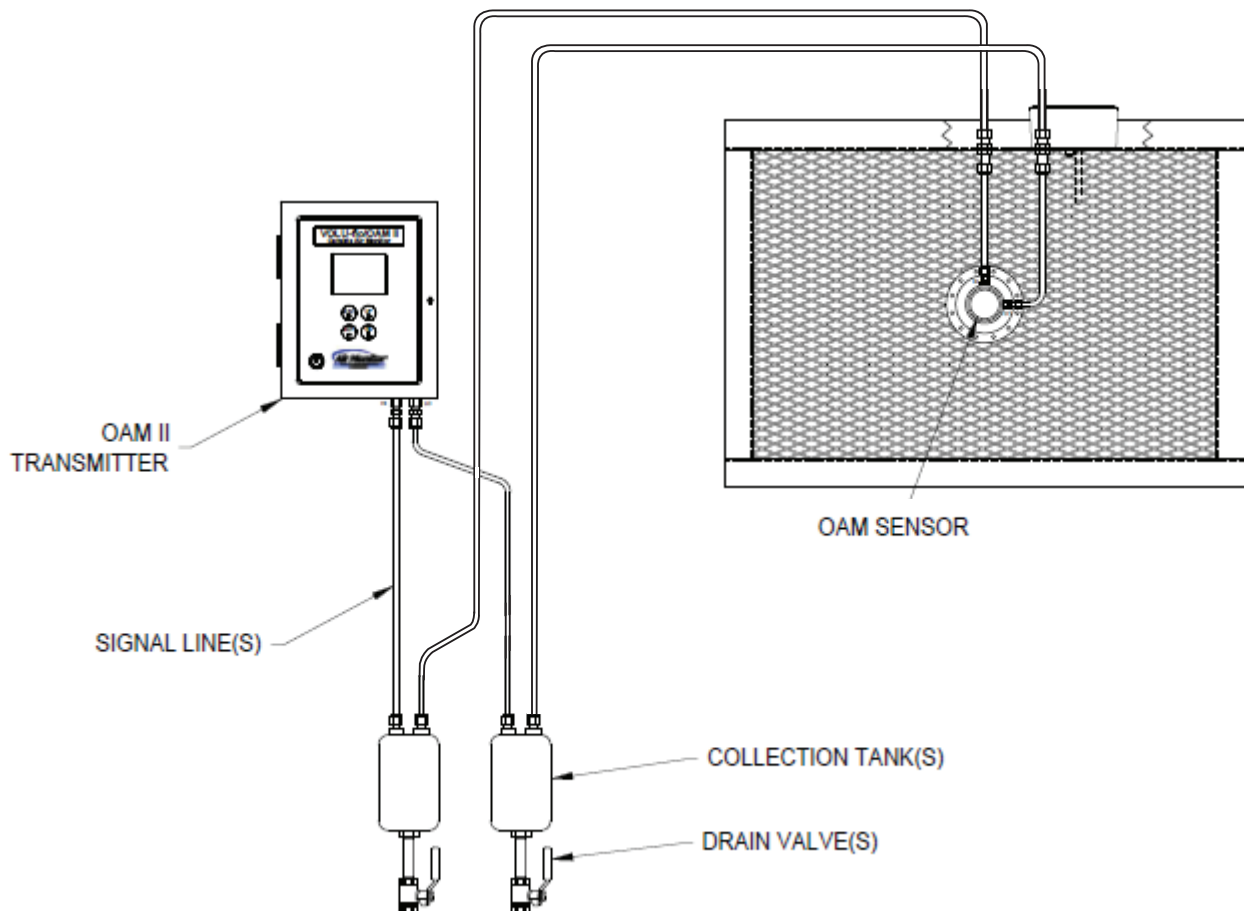

Figure 3
- For applications which may experience condensation in the signal tubing, the use of drip legs for each signal line is strongly recommended, to avoid migration of water into the transmitter. See Figure 3.